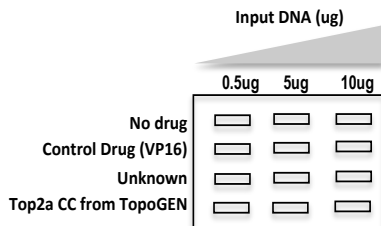

Figure 1. Optimal arrangement for testing (a Top2a test case).
1. Dilute DNA to desired concentrations and load precisely equivalent micrograms of DNA per slot. We recommend using a minimum of three concentrations (0.5, 5 and 10ug DNA per slot). For example, if you dilute your DNA to 2.5ng/ul, 25ng/ul and 50ng/ul, spotting 200ul/slot will put a final DNA concentration of 0.5, 5, and 10ug in 3 different wells, respectively. A typical layout for testing both positive/negative control and an unknown is shown in Fig. 1. In this example, Top2a targeting is being evaluated. Each horizontal row (Fig.1) contains different genomic DNA inputs as illustrated. Genomic DNA is prepared from 3 different cell treatments: (i) *Negative or no drug vehicle control (matched solvent)*; (ii) *Positive control drug (VP16 for a Top2 test for poisoning)*; (iii) *The unknown (or experimental)*.